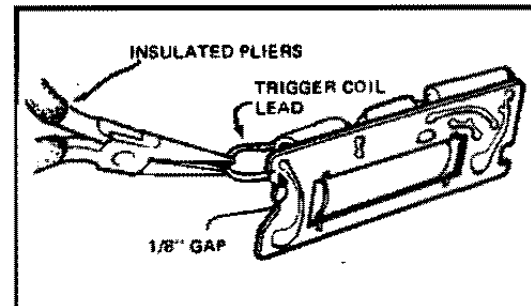

FIG. 3-4 CHECKING FOR TRIGGER ARCING
- c. When the flash capacitor has charged, (converter light blinking), hold the unsoldered lead about an 1/8 of an inch from the solder connection on the board (Figure 3-4) with a pair of insulated-handled, needle nose pliers. DO NOT TOUCH THE WIRE CONDUCTOR.